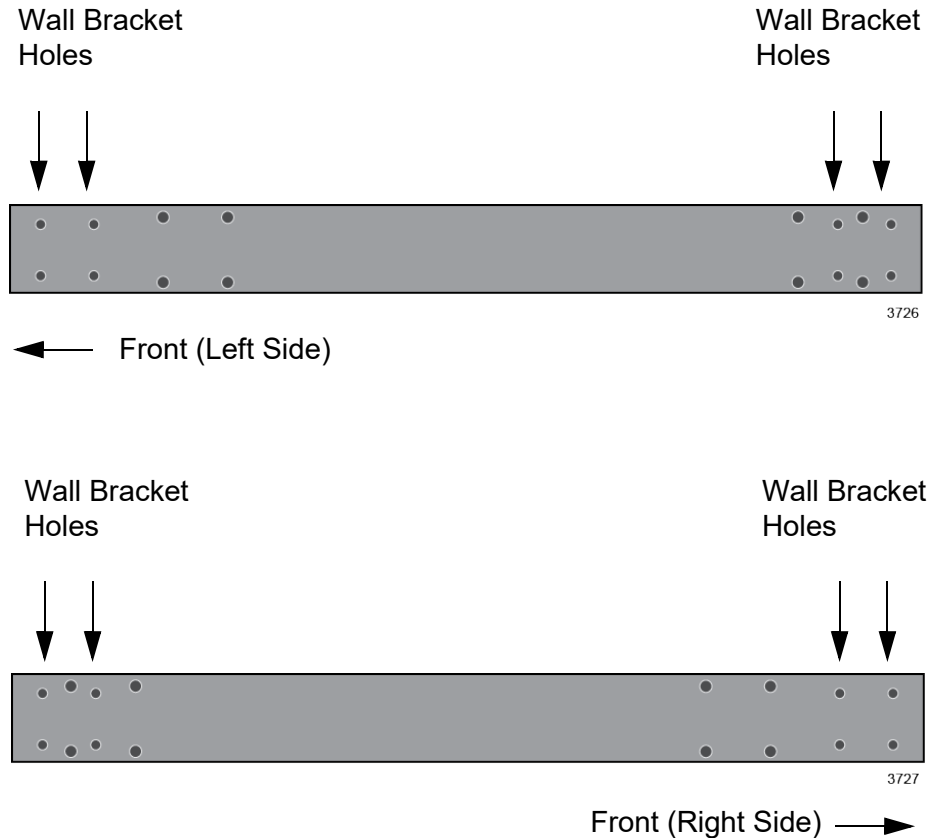

Figure 51. Mounting Holes
The sides of the switch have two sets of holes. One set is for installing the switch on a wall with the brackets and the other set is for the AT-RKMT-SL01 Rack Mounting Kit. The holes for the brackets are identified in Figure 51.
2. Install the four brackets with sixteen screws that come with the switch to the sides of the unit, as shown in Figure 50 on page 110 and Figure 51 on page 111.